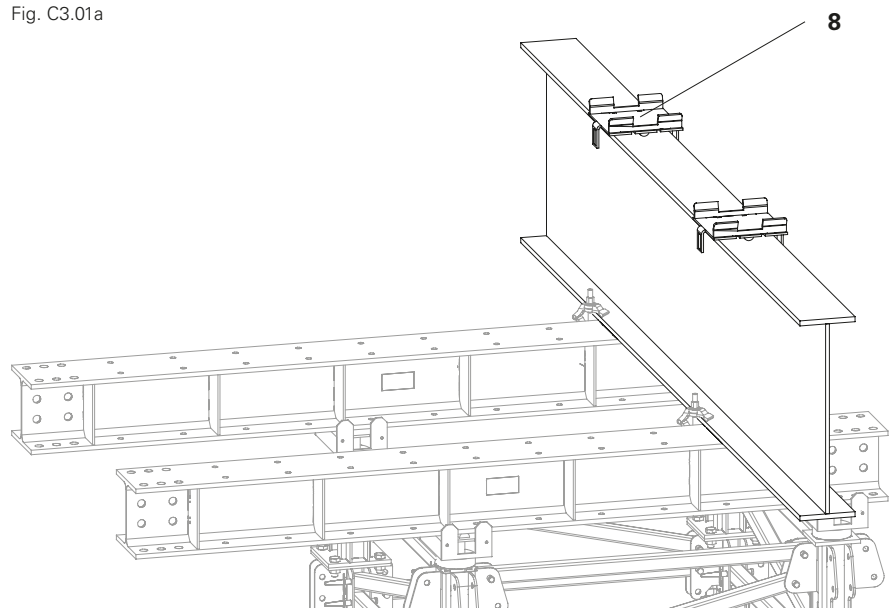

Fig. C3.02
4. Mount 2x Support Calotte ATG (**8**) on the cross girder using the truss girder frame spacing of the truss girder package. (Fig. C3.02)